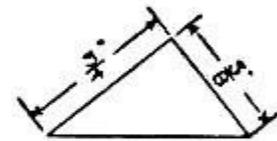

FIG. 73
**The Pitch-board**, the pattern by which to lay out the steps (Fig. 73). Then draw a line lengthwise upon a thin strip of wood (*AB* in Fig. 72), and lay off the pitch-board on this as shown in Fig. 72—sixteen times for the first to second story stairs and fifteen times for the second to third story stairs. Draw the line *DE* parallel to *AB*, and the lines *CD* and *EF* as shown. Then cut out the stringer along the lines *CDEF*, being careful in doing so not to split off the corners. Prepare two stringers for each flight of stairs.